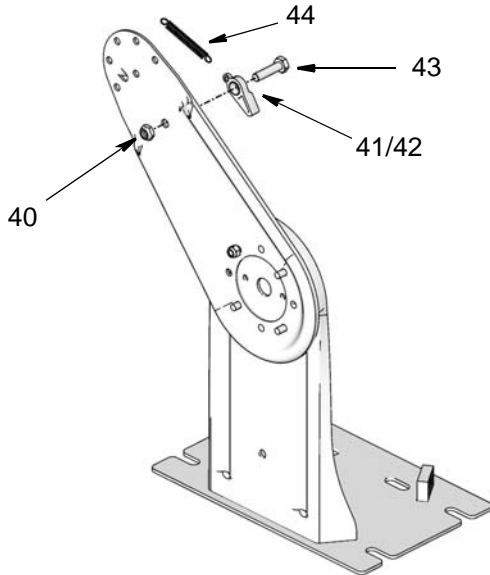

FIG. 8
- Remove nut (40) and bolt (43), bushing (41), pawl (42) and spring (44) from arm (FIG. 8). Discard these parts. Use new parts included in the kit for reassembly.